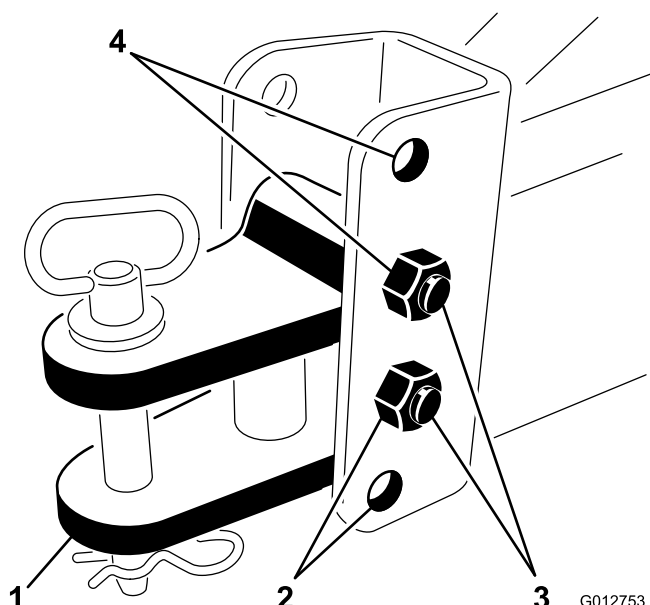

Figure 5
2. Adjust transport frame hitch up or down according to measurement of tractor hitch. Use appropriate mounting holes as shown in chart below and in Figure 5.